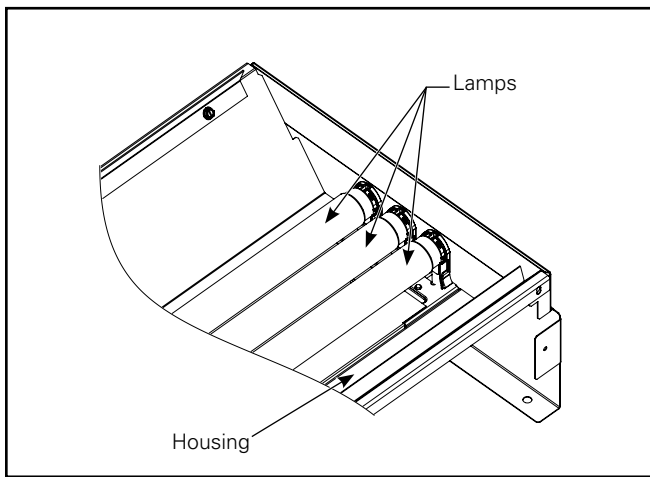

Figure 1.
1. Remove the lamps from the luminaire. (Figure 1.)